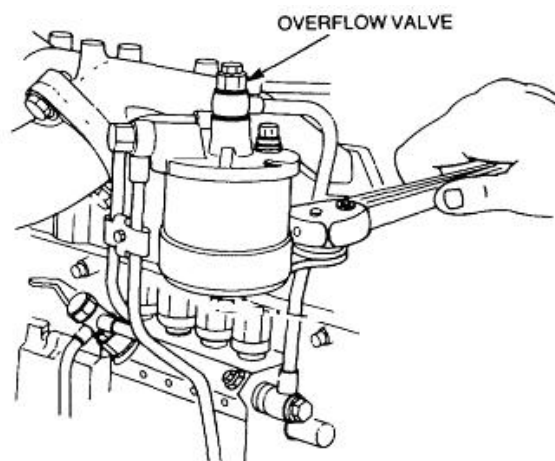

Figure 27 Fuel Filter Removal
- c. Using a suitable filter removing tool, remove the fuel filter (Figure 27).